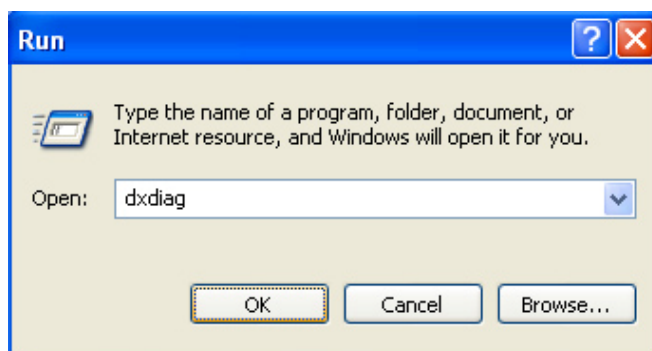

Figure 7
I. In order to read the video data accurately, “DirectDraw” must be forbidden. The operation method is shown from Figure 7 to Figure 10.